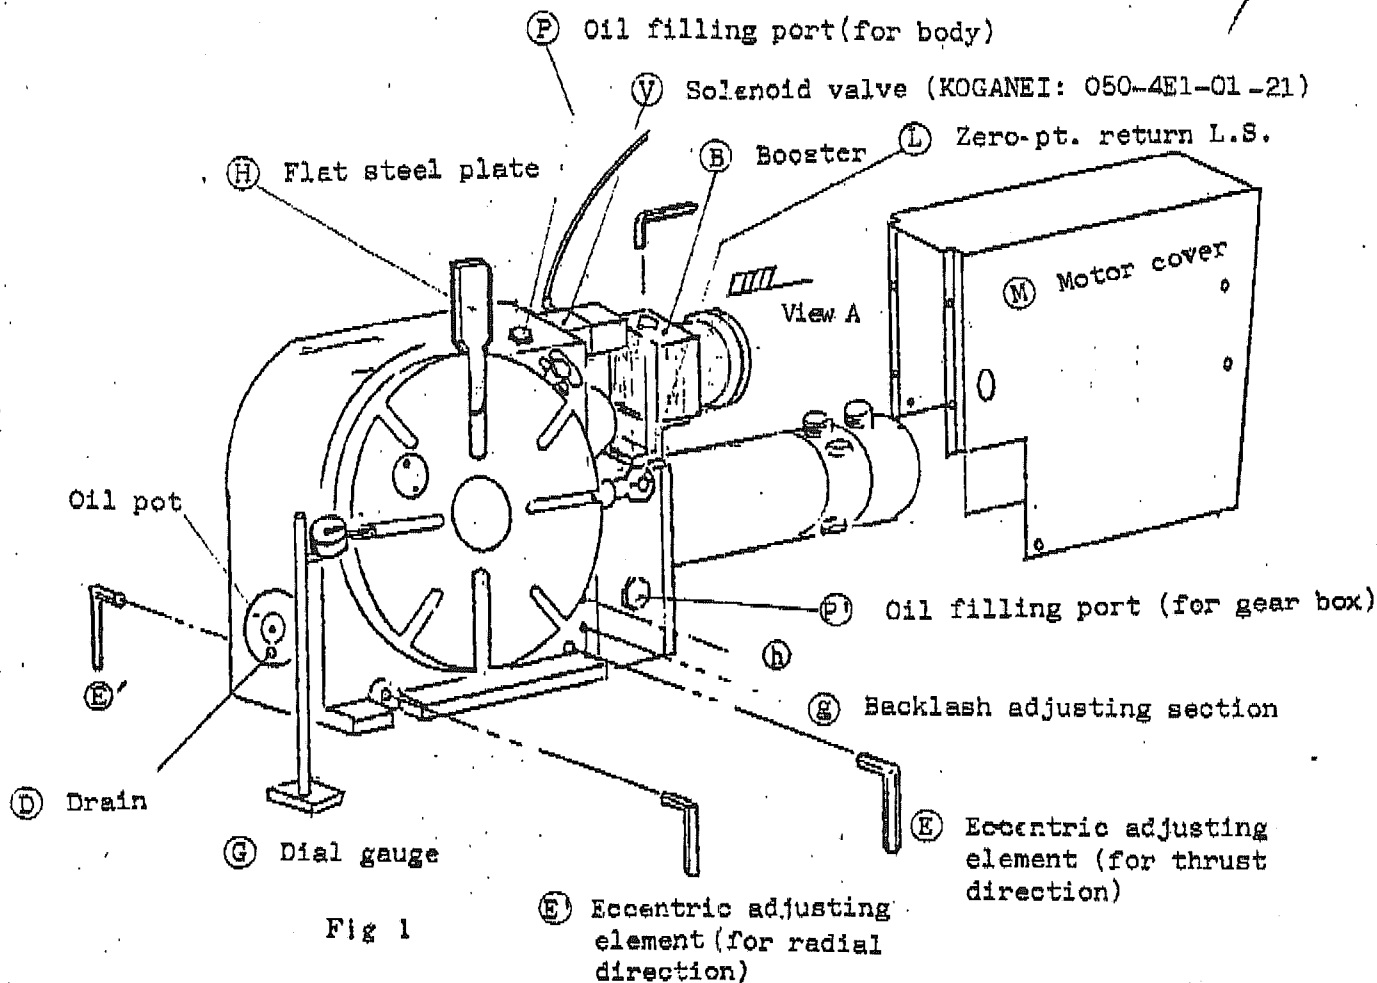

Fig 1
Read a deflection of the dial gauge (G) by inserting a flat steel plate (H) into a T-slot of the circular table and shaking an outer periphery thereof left and right through the plate with hand. A backlash of within 5 to 10  $\mu$  is normal, and the adjustment is required in the event when a backlash of above 0.05mm is observed. The measurement is to be done on eight spots of the table by rotating it every 45 degrees. (Refere to Fig. 1 (G) & (H).)
- 1) Loosen the screw (E) of the eccentric adjusting element (thrust direction).
- 3) The backlash adjusting screws (h) & (g) are provided at the backlash adjusting section of Fig. 1. Set the dial gauge (G) again as shown in Fig. 1, loosen the screw (g), and tighten the screw (h) clockwise. Then the eccentric shaft will turn in the direction of arrow, and the backlash between the worm gear and the worm screw will get near to zero. Adjust the backlash to 10 ~ 15 μ by the use of screws (g) & (h) watching the deflection of the dial gauge (G)
- 4) After completion of the above adjustment, retighten the screws (E) and (E') in this order. Thus, the adjustment of backlash to 5 ~ 10  $\mu$  is completed.
\* If the gear noise is too light as compared with former one, a backlash would have been produced in the motor shaft. Apply the dial gauge on the T-slot again as shown in Fig. 1 and jog the button to examine behavior of the gauge pointer. Turn the adjusting screw counterclockwise while operating both the CW & CCW jog buttons, and the backlash of the motor shaft will get near to zero.
The limit switches for checking clamp/unclamp are provided at the View A portion of Fig. 1. Movement of the dog attached to the rear part of braking piston actuates the clamp/unclamp check limit switches to give a direct contact signal. (Refer to Fig. 4.)
1) The zero-point return limit switch (Fig. 5) is disposed in the (L) part of Fig. 1. The dog attached to the outer periphery of table actuates this limit switch to have it give the reduction speed command.